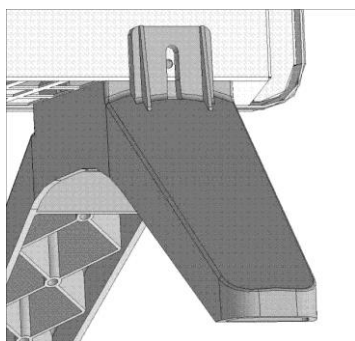

Fig. 3.1
4.5 For using of the convector on the floor, set the support, as shown in Figures 3.1 – 3.2.